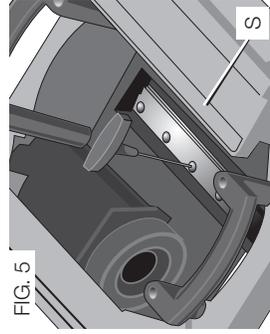

FIG. 5
8. Use the T-wrench to remove the eight screws on the knife clamp and set them in the small screws bin (S) on the front panel of the planer (Fig. 5).